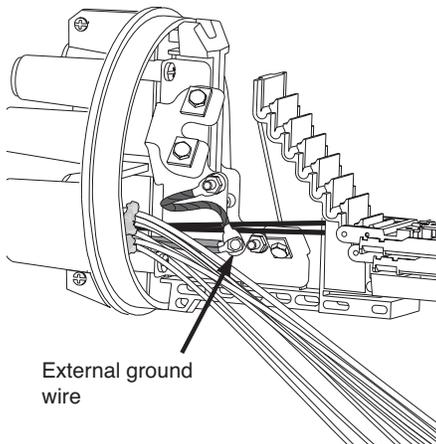

Figure 15
- Grounding using the FOSC-ACC-Fiber Ext Grnd Kit (common or isolated grounding) (Figure 15)